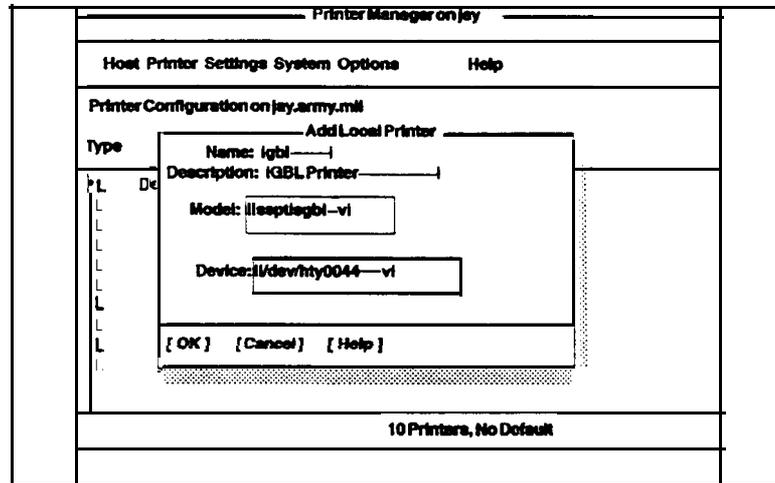

Figure 9-5. Add Printer Window
4. You are now in the Add Local Printer window (see Figure 9-5). Enter the **Printer Name** and press **RETURN**. **IMPORTANT:** Use the same printer name when you enter the printer in TC ACCIS in the Manage TC ACCIS Printer Screen. The Printer Names must match for TC ACCIS to recognize the printer.